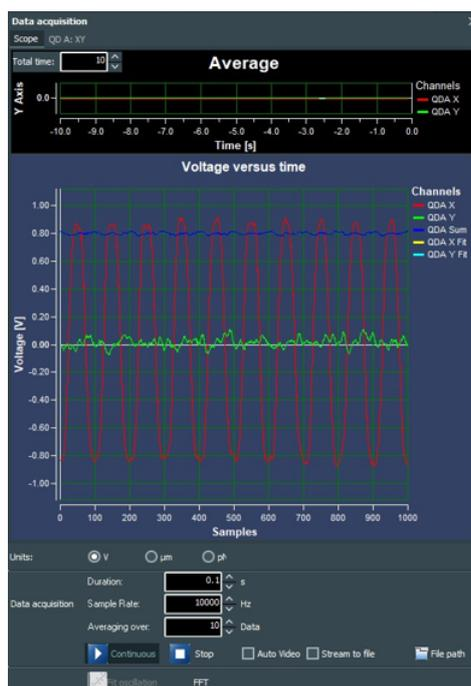

Figure 6.24: Response curve of a quadrant detector when correctly adjusted, X oscillation
10. Observe the Y component. If it is not almost straight line and close as possible to 0 V as shown in (see Fig. 6.24), fine-adjust the trap up or down till 0 V. If the signal still cannot reach 0 V, carefully adjust the Y-potentio at the back of the 4QD detector as described in chapter 6.5.8.